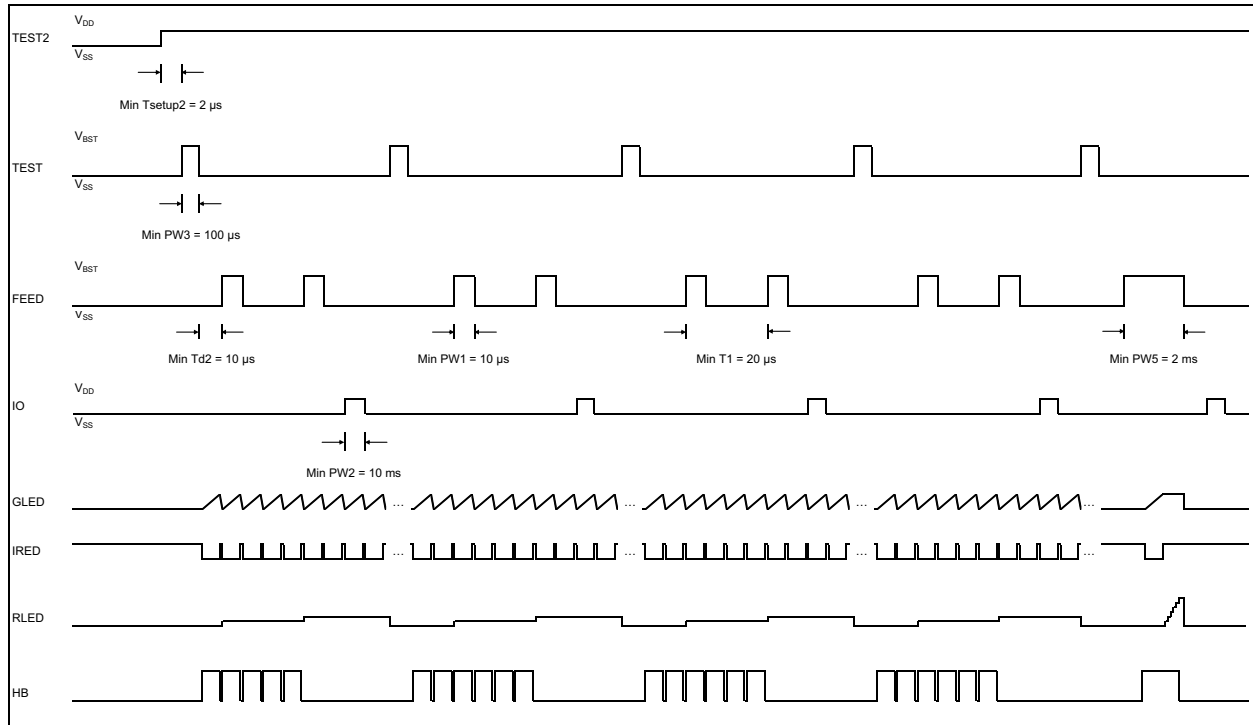

FIGURE 4-4: Timing Diagram for Modes T1 to T5.
3. Apply a clock pulse to the TEST input to enter in T1 mode. This initiates the calibration mode for Normal Limits setting. The Integrator output sawtooth should appear at GLED and the smoke detection level at RLED. Clock FEED to increase the smoke detection level as needed. Once the desired smoke threshold is reached, the IO input is pulsed low to high to enter the result. See typical waveforms in Figure 4-4. Operating the circuit in this manner, with nearly continuous IRED current for an extended period of time, may result in undesired or excessive heating of the part. The duration of this step should be minimized.